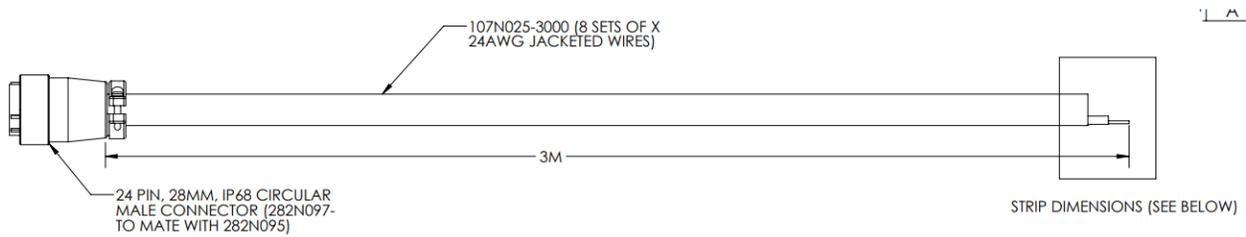

Figure 19. Relay Output Cable
Figure 19 shows the RJ45 port to connect the Remote Annunciator (RA) with the Monitor and Battery Backup Unit (MBBU) and the 24-Pin connector to connect the Form-C cable with the fire alarm control unit.
Figure 19 shows the RJ45 port to connect the Emergency Power-off Switch to the Monitor and Battery Backup Unit (MBBU).